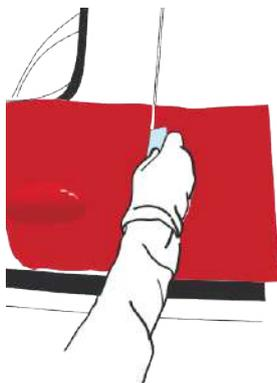

Figure 35
- › To finish, run the squeegee over the cut. Incline the squeegee towards the thinner edge. (FIG. 35)